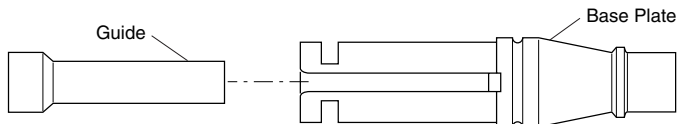

Figure 11 - Inserting Guide Into Base Plate
1. Insert guide into rear of base plate (see Figure 11).